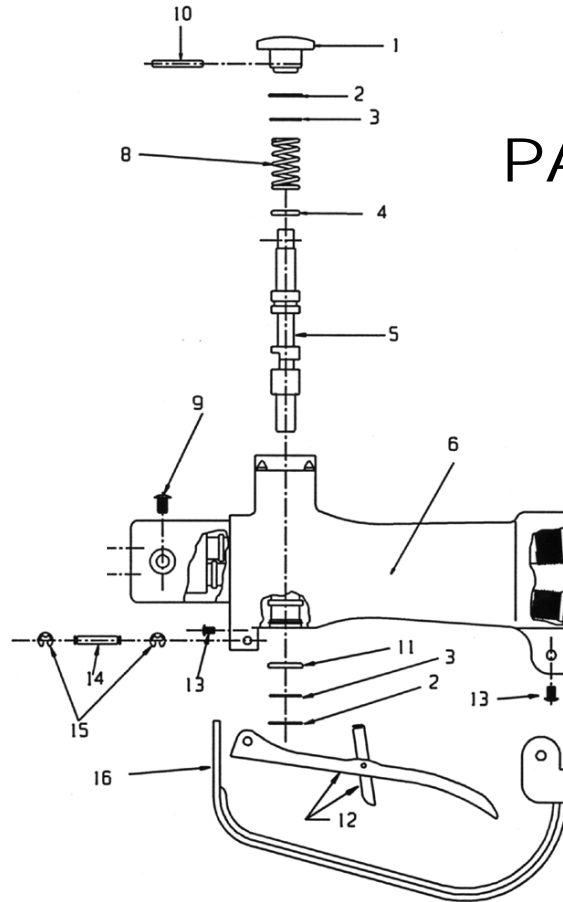

FIGURE 7
Refer to Figure 7, Page 18
Tie the two inner tubes together with the three O-rings (7) twisted in a figure 8 configuration. The pressure tube (6) is marked with blue ink on each end. The return tube (5) has no marking. As shown in Fig. 4, the pressure tube closest to the bottom of the page. The return tube is shown above the pressure tube. Tubes must be fitted into the Rear Tube Support (8) with the O-ring around its end (shown on the right.) The outer tube support can be inserted after placing it over the inner tubes and aligning it with the three holes in the head casting. Internal O-rings (1) should be replaced after disassembly. Remove and replace. Slide inner tubes (5 and 6) into their proper sockets with extreme care. The sockets can be seen in a cutaway section in Fig. 7. Be sure that the ends of the inner tubes are clean and free of burrs and tears so as not to cut or scratch the O-rings. Install the three oval head screws (11) and two button head screws (9).
See Figure 7, Page 18